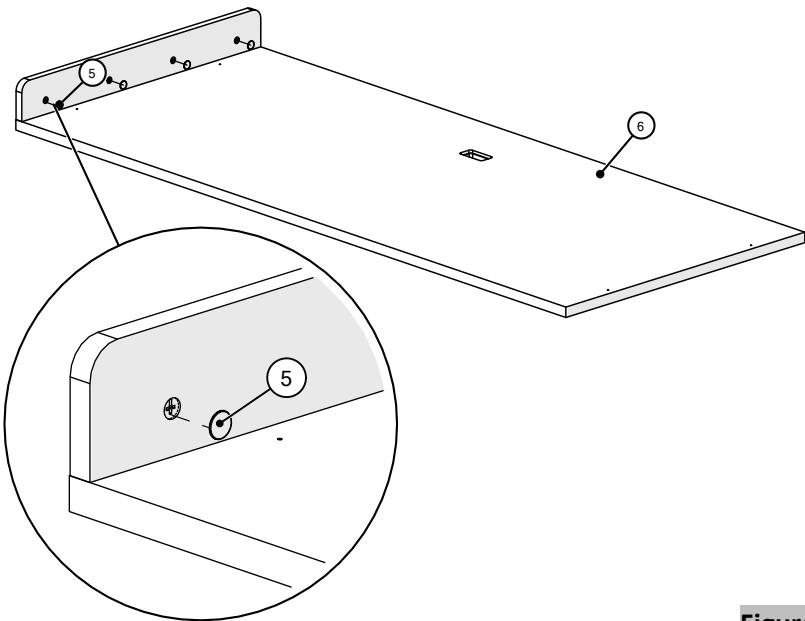

Figure 6
- 7. Stick fast caps to the exposed CamFix, (Figure 6).